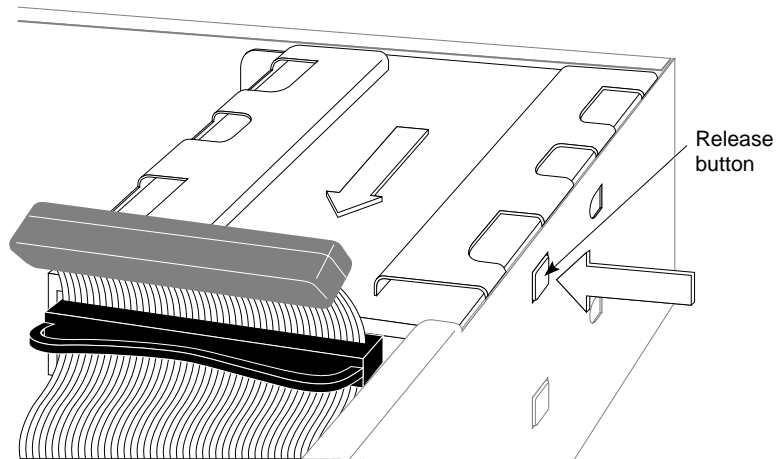

Figure 9-20 Removing the Floptical Drive
6. Remove the drive and bracket by pressing the release button that protrudes through the hole on the side of the chassis and pulling the unit toward you, as shown in Figure 9-20.